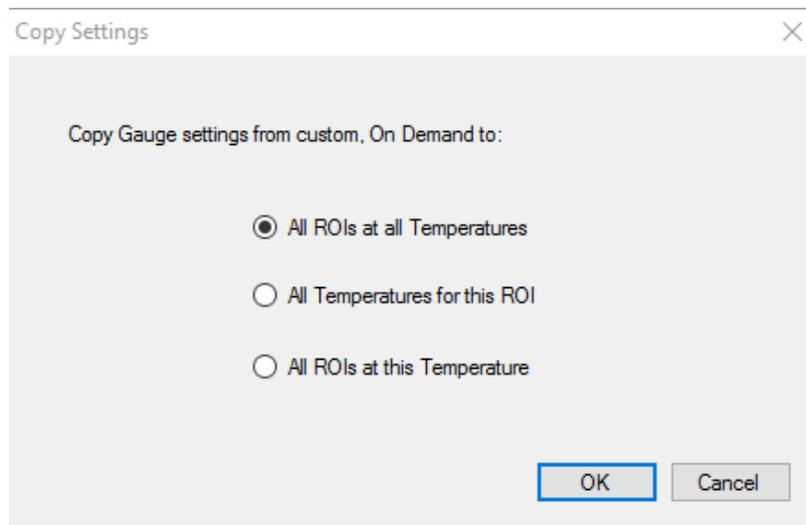

Figure 2.14 Copy Settings Dialog
- **Copy** – Copies chosen settings between all ROIs. Available settings that can be copied are shown in **Figure 2.14**.
This is a series of tabs with each ROI name, as well as a Profile tab, if one has been loaded. If Part Tracking is enabled, a 'Tracked Parts' tab becomes available. These tabs allow the settings for each ROI to be independent of one another but can be synced in various ways using the Copy Settings Dialog shown in **Figure 2.14**.